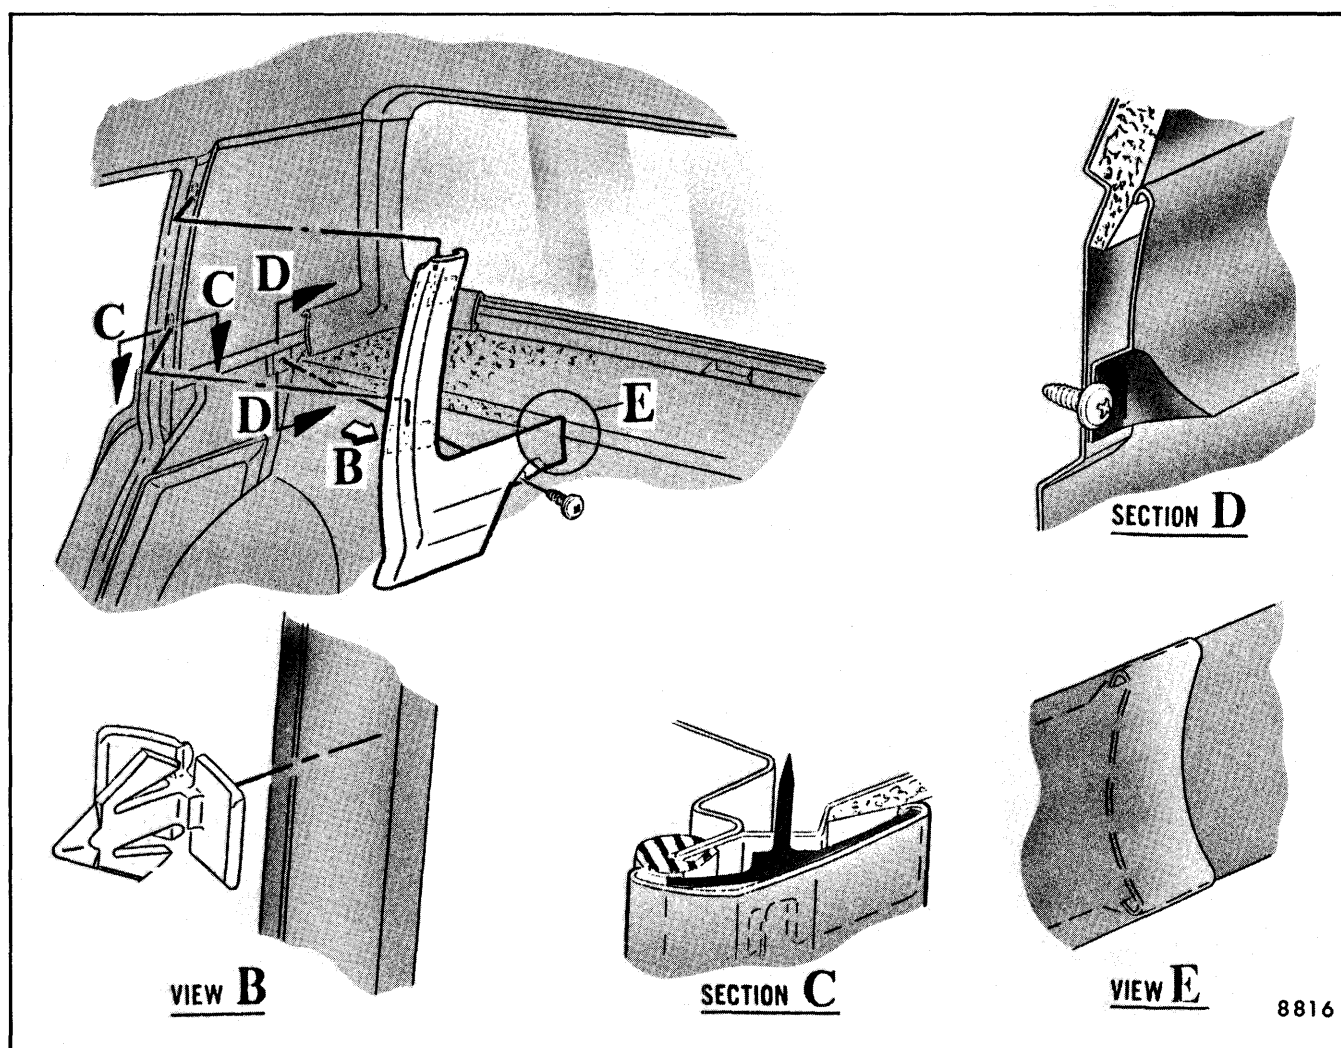

Fig. 8-3-Quarter Front Garnish Molding
3. Remove two (2) lower molding attaching screws.
4. Insert flat-bladed tool (J-2772 or equivalent) between front edge of molding and finishing lace at two (2) clip locations and gently force attaching clips from retaining slots (Fig. 8-3).